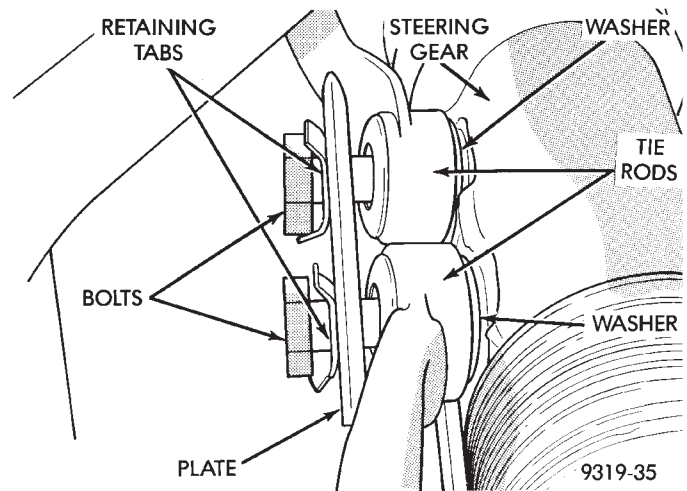
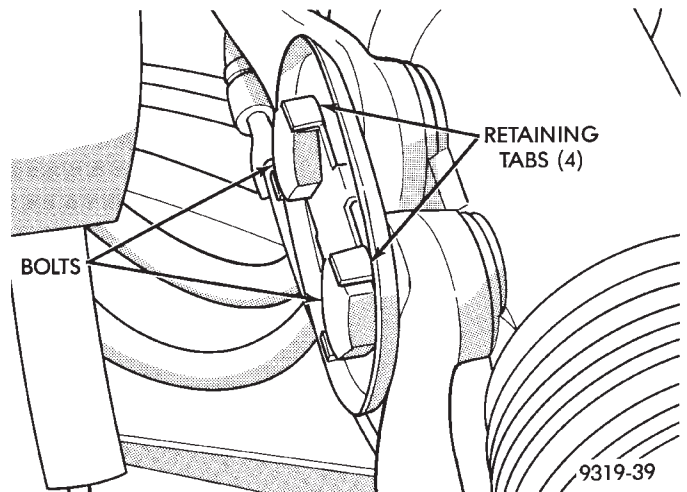

Fig. 16 Tie Rod Attachment To Steering Gear
Fig. 17 Attaching Bolt Retaining Tabs
(6) Align center take off on steering gear with the tie rod assemblies. Install tie rod attaching bolts and washers into steering gear assembly. **Be sure washers are installed between tie rods and steering gear (Fig. 16).** Torque tie rod to steering gear attaching bolts to 75 N•m (55 ft. lbs.). After tie rod attaching bolts are torqued, bend attaching bolt retaining tabs against heads of attaching bolts (Fig. 17).